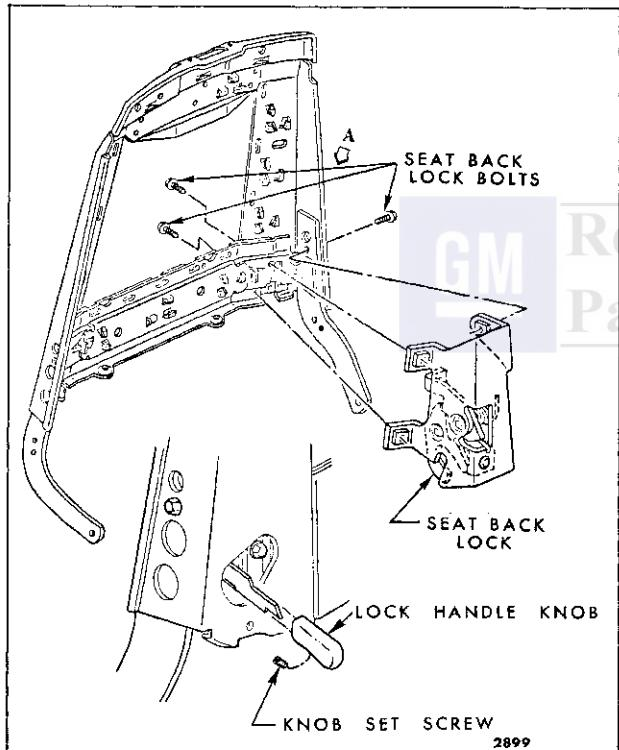

Fig. 15-32—Front Seat Back Lock - "F & Z" Standard Bucket Seats
2. Remove seat back lock handle knob (See Fig. 15-32).
3. Remove seat back panel and detach seat back trim outer side facing sufficiently to gain access to lock attaching bolts (Fig. 15-32).
4. Remove seat back lock attaching bolts (Fig. 15-32) and remove seat back lock from seat back.